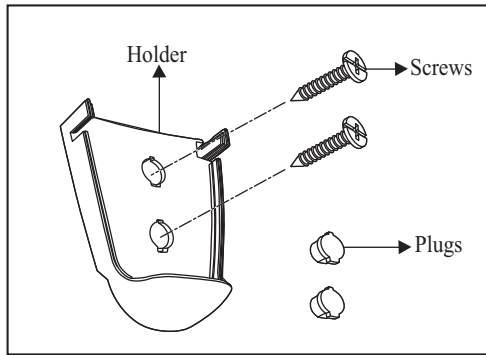

Figure 21
1. Remove the two plugs from the holder. Note that the plugs have unique tabs that allows them to fit only in one hole. (Fig. 21)